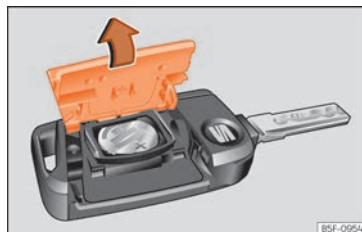

Fig. 94 Vehicle key: opening the battery compartment cover.
- Remove the cover from the back of the vehicle key »» Fig. 94 in the direction of the arrow »» ❶.
- Fit the cover as shown »» Fig. 94, pressing it onto the vehicle key casing in the opposite direction to that shown by the arrow until it clicks into place.
❶ CAUTION